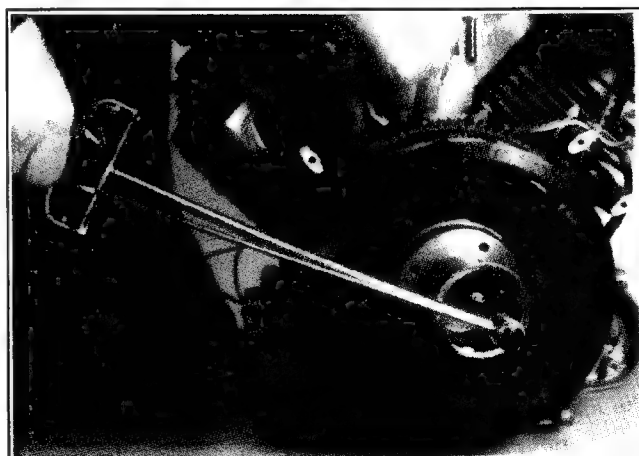

Figure 11-37. Installing Flywheel Fastener.
- Use a flywheel strap wrench or flywheel holding tool to hold the flywheel. Torque retaining screw to **66.4 N·m (49 ft. lbs.)**. See figure 11-37.